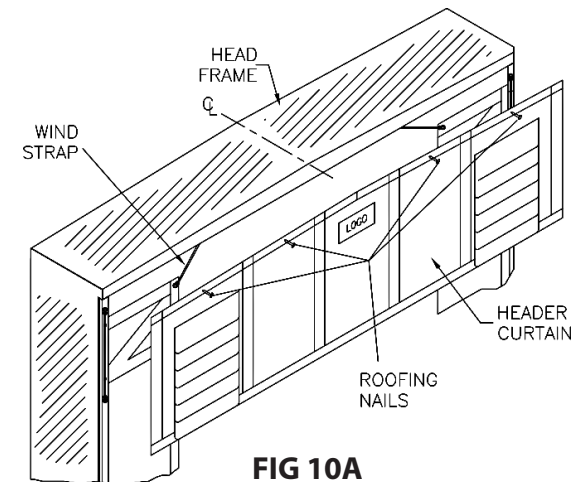

FIG 10A
- Attach 2 Wind Straps (supplied) to the top inside corners of the verticals by hooking the "S hook" through the grommets, Pull wind strap until taut and secure the end to the header frame using  $\frac{1}{4}$ " x  $1\frac{1}{2}$ " wood screws with  $\frac{3}{8}$ " washers (Figure 10a).
- Match top center of Header Curtain with top center of Head Frame (Figure 10a).
- \* Secure Header Curtain between stays with four (4) evenly spaced Roofing Nails